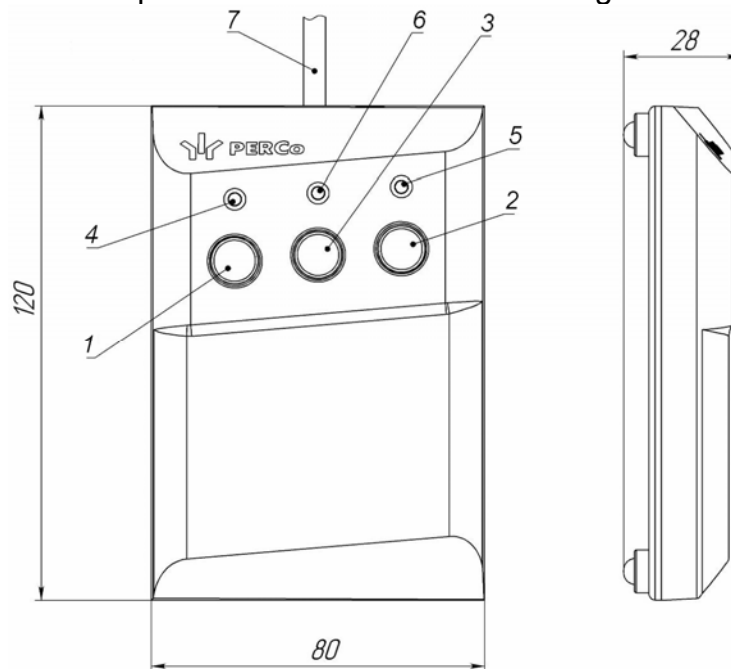

Fig. 4. RC-panel overall view
5.2.3 The RC-panel is designed as a small desktop device with a shock-proof ABS plastic case and is intended for setting and indicating operating modes when the turnstile is operated manually. The RC-panel overall view is shown in Fig. 4.